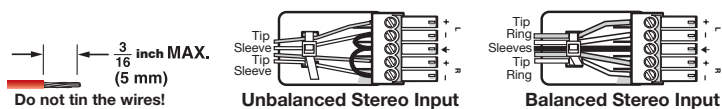
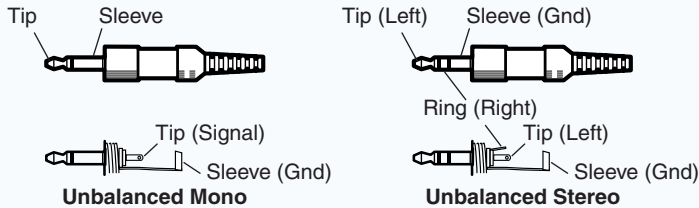
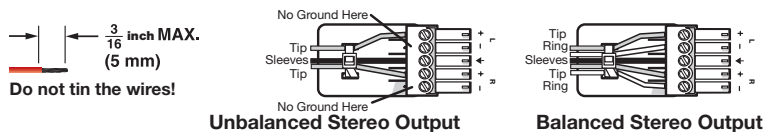

Figure 2. Captive Screw Input Connector Wiring
Figure 3. Phono Audio Connectors
Figure 4. Captive Screw Connector Wiring for Audio Output
- ⑤ **Audio Input connector** — Connect a balanced or unbalanced audio input to this 3.5 mm, five-pole captive screw connector. Connectors are included, but you must supply the audio cable. See figure 2 to wire a connector for the appropriate input type and impedance level. High impedance is generally over 800 ohms.
- When making connections for the MDA from existing audio cables, see figure 3. A mono audio connector consists of the tip and sleeve. A stereo audio connector consists of the tip, ring and sleeve. The ring, tip, and sleeve wires are also shown on the captive screw audio connector diagrams, figure 2 and figure 4.
- ⑥ **Audio Outputs (1 through 3) connectors** — Connect up to three balanced or unbalanced audio devices to these 3.5 mm, five-pole captive screw connectors. Connect audio devices, such as an audio amplifier or powered speakers. See figure 4 to properly wire an output connector.